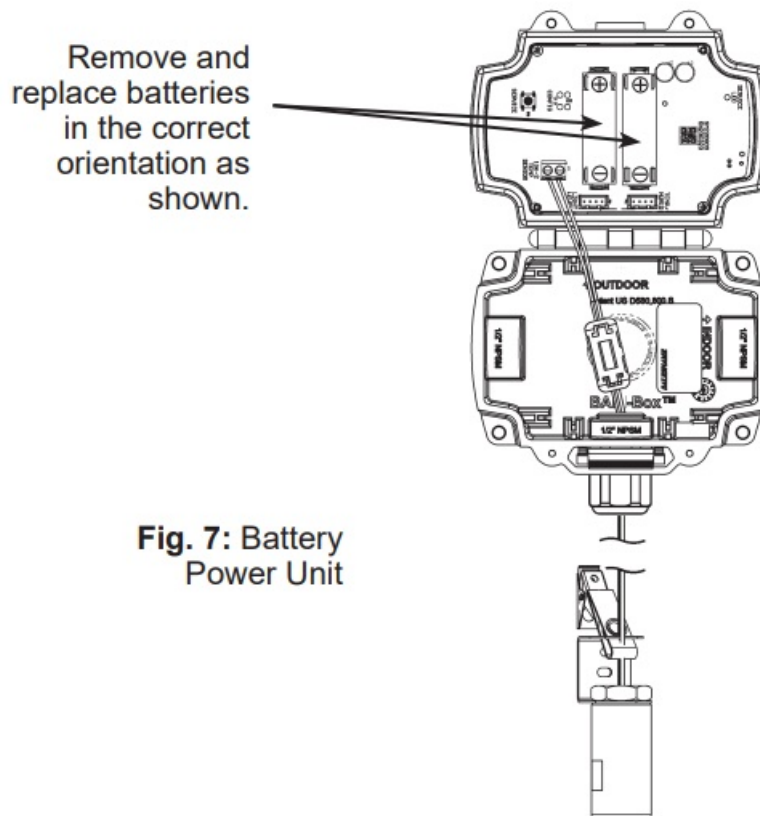

Fig. 7: Battery Power Unit
- Open the cover to access the batteries (Fig 7).